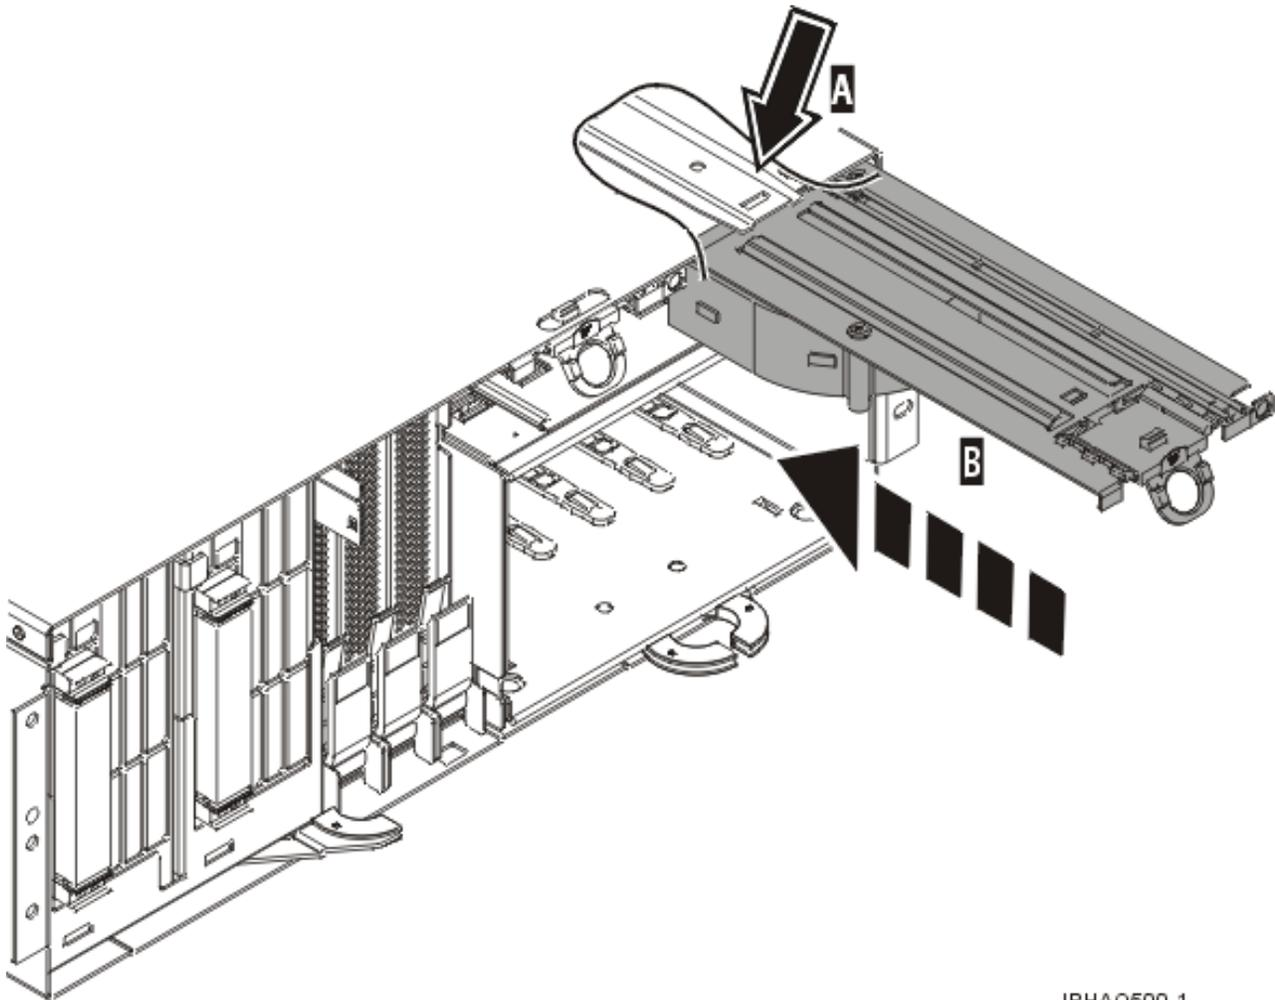

Figure 35. Fan replacement
3. As shown in Figure 35, align the replacement fan **B** with the guide rails **A** inside of the fan slot.